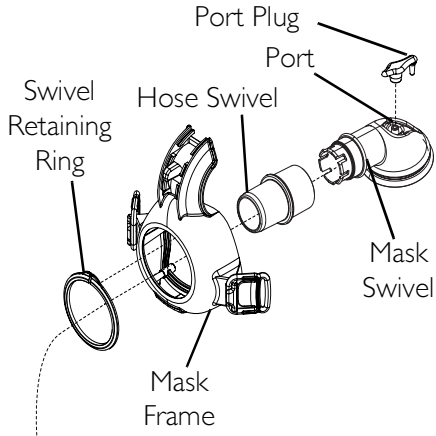
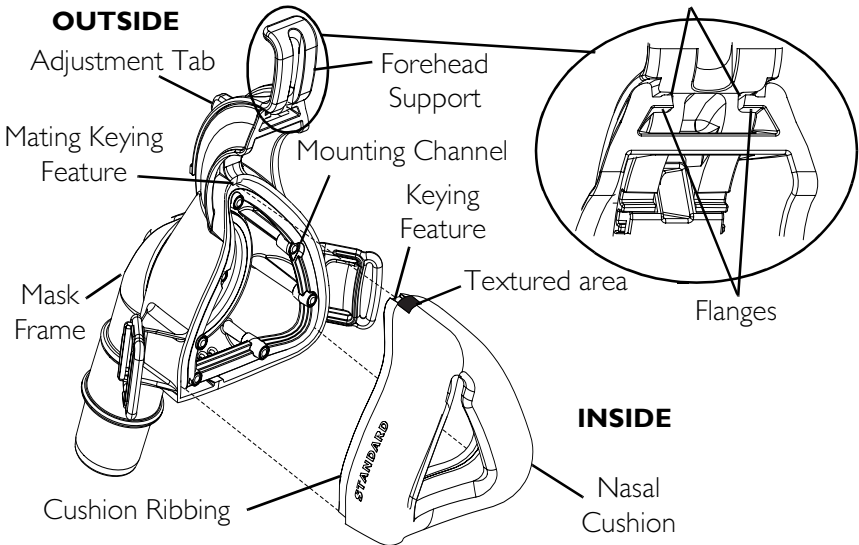

FIGURE 3 Cleaning the Mask and Headgear
FIGURE 4 Cleaning the Mask and Headgear
NOTE: For this procedure, refer to FIGURE 1 on page 7 and FIGURE 3 on page 12.
4. Remove the forehead support from the mask frame by pressing down the adjustment tab and sliding the support upward over the tab and off of the frame (Detail “A” of FIGURE 3).
6. Remove the swivel retaining ring on the outside of the mask swivel (Detail “B” of FIGURE 3).
NOTE: For this procedure, refer to FIGURE 3 on page 12 and FIGURE 4 on page 15.
1. Replace the port plug onto the mask swivel by pushing the barb on the plug into the hole in the swivel while gently pulling the barb through from the other side, until the barb snaps into place (Detail "B" of FIGURE 3).
7. Align the keying features at the top and bottom of the nasal cushion to the mating keying features in the mounting channel of the mask frame. The textured area above the keying feature at the top of the cushion aligns with the base of the adjustment tab. (Detail "B" of FIGURE 4).
9. If necessary, reattach the forehead support by doing the following (Detail "B" of FIGURE 4):